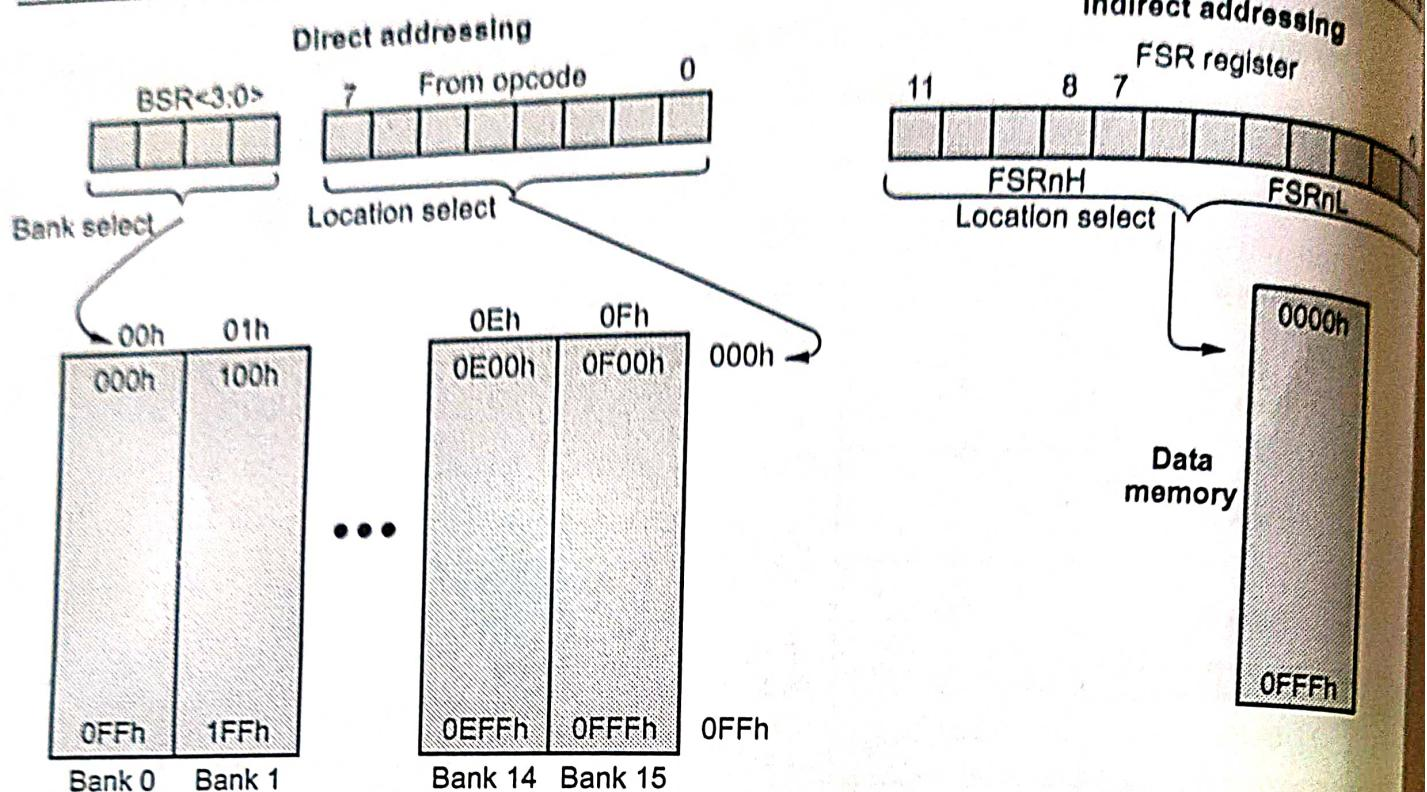

Fig. 2.7.2 Direct and indirect addressing methods for accessing data memory
- The entire data memory may be accessed directly or indirectly. Direct addressing may require the use of the BSR register. Indirect addressing requires the use of the File Select Register (FSR). Each FSR holds a 12-bit address value that can be used to access any location in the data memory map without banking. Fig 2.7.2 demonstrates direct and indirect addressing methods.